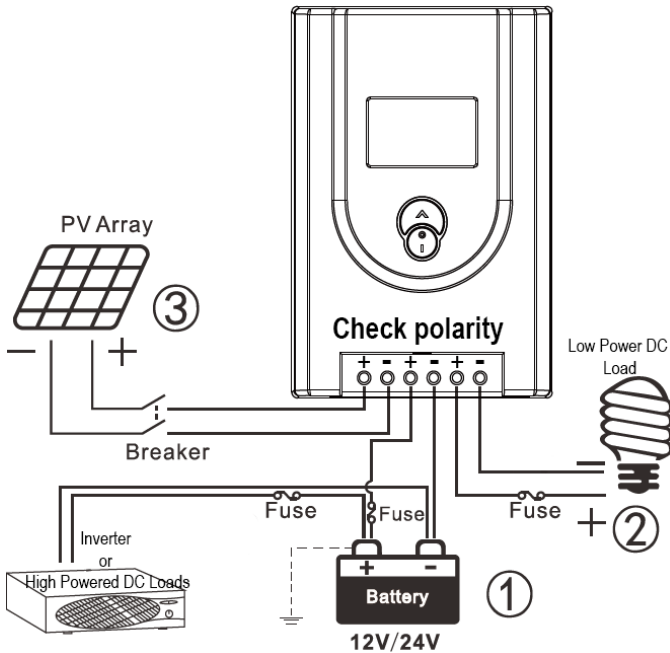

Figure 3 Connection Diagram
1. Connect your components to the solar charge controller in the sequence as shown in figure 3(1,2,3) and make sure the polarity is correctly connected. Do not insert fuses or turn on the breaker during the installation. When disconnecting, the order will be reversed (3,2,1)